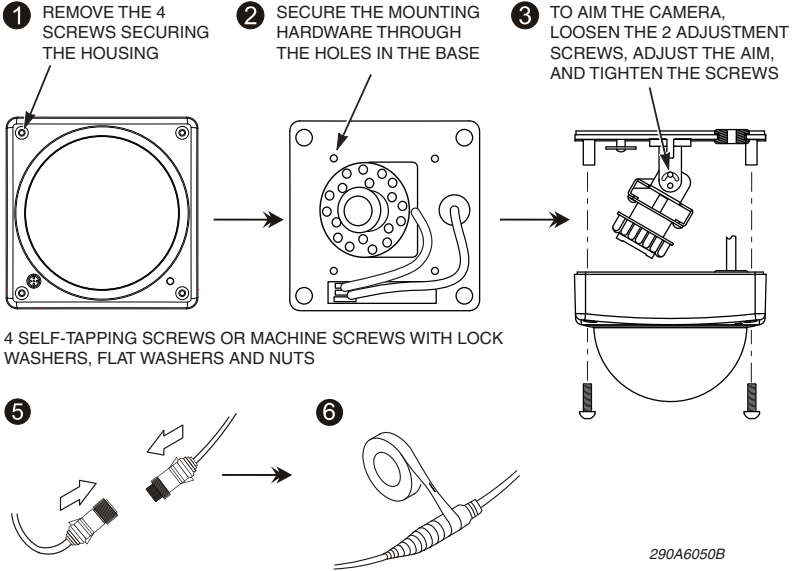

Figure 5. Dome camera installation CAMCCD-BALLNTSC/CAMCCD-BALLPAL
2. Remove the four screws that secure the camera housing cover/dome to its base (Figure 5 on page 30).